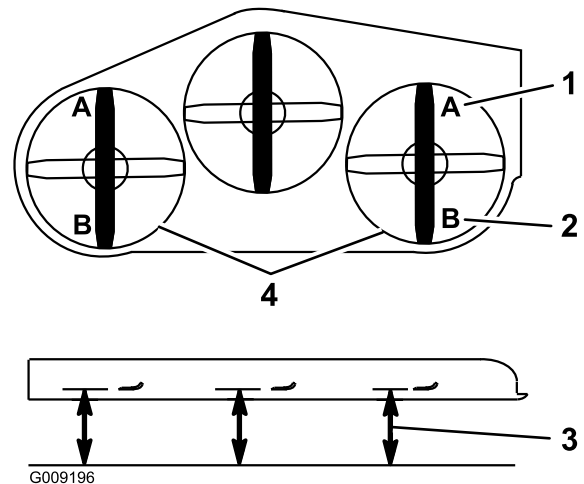

Figure 88
9. On both sides of the deck, measure from the level surface to the front tip of the blade (Position A) as shown in Figure 88.
16. On both sides of the deck, measure from the level surface to the back tip of the blade (position B) as shown in Figure 88.